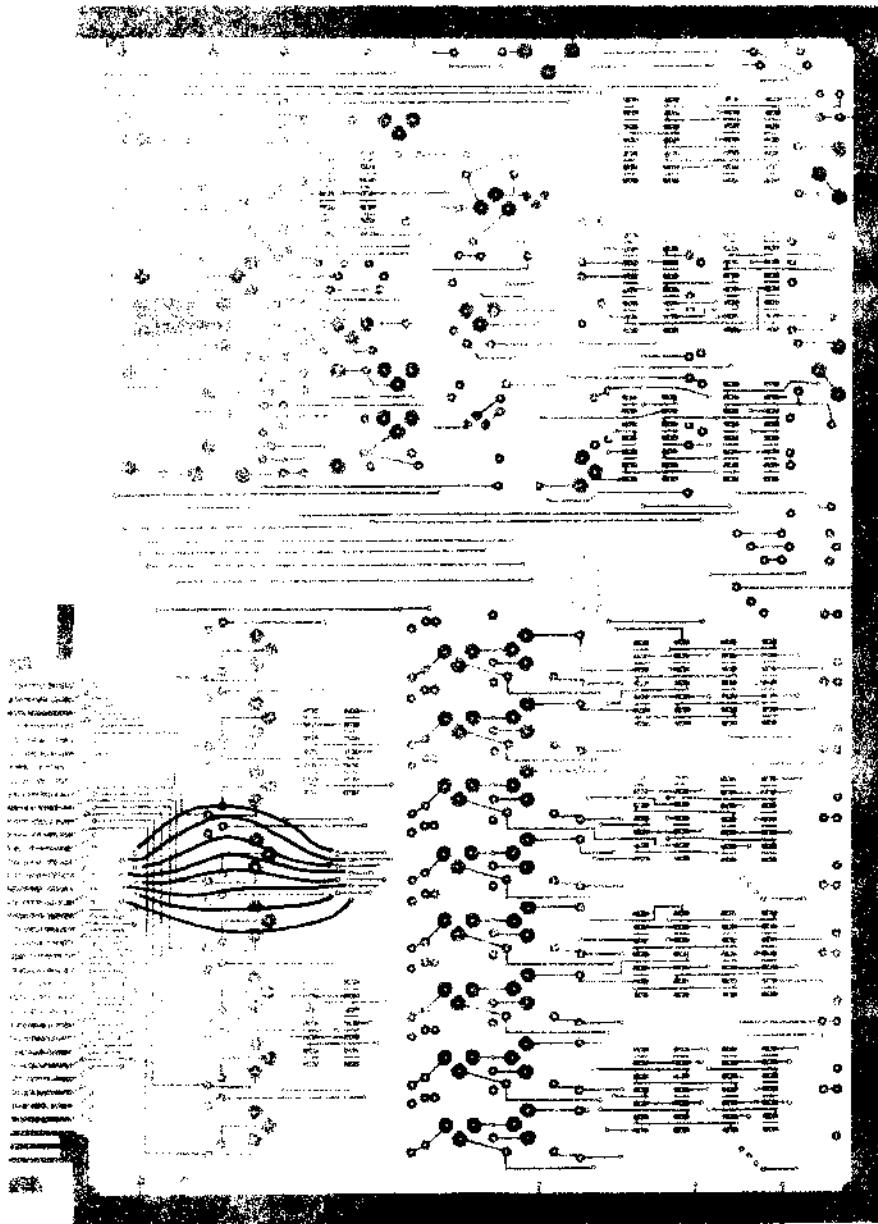

Figure 2. Address Input Wiring
- ( ) Cut eight lengths of wire approximately 2-1/2 inches long. Strip 1/4 inch of insulation from each end. These wires may be installed on either the component or solder side of the circuit board. Figure 2 shows the installation on the solder side. Install the wires one at a time and solder each one with the insulation as near the pad as possible. Cut any excess wire as close to the pad as possible. Be extremely careful that all clippings are removed. Refer to Figure 1 and Table 1 as required to resolve any problems.